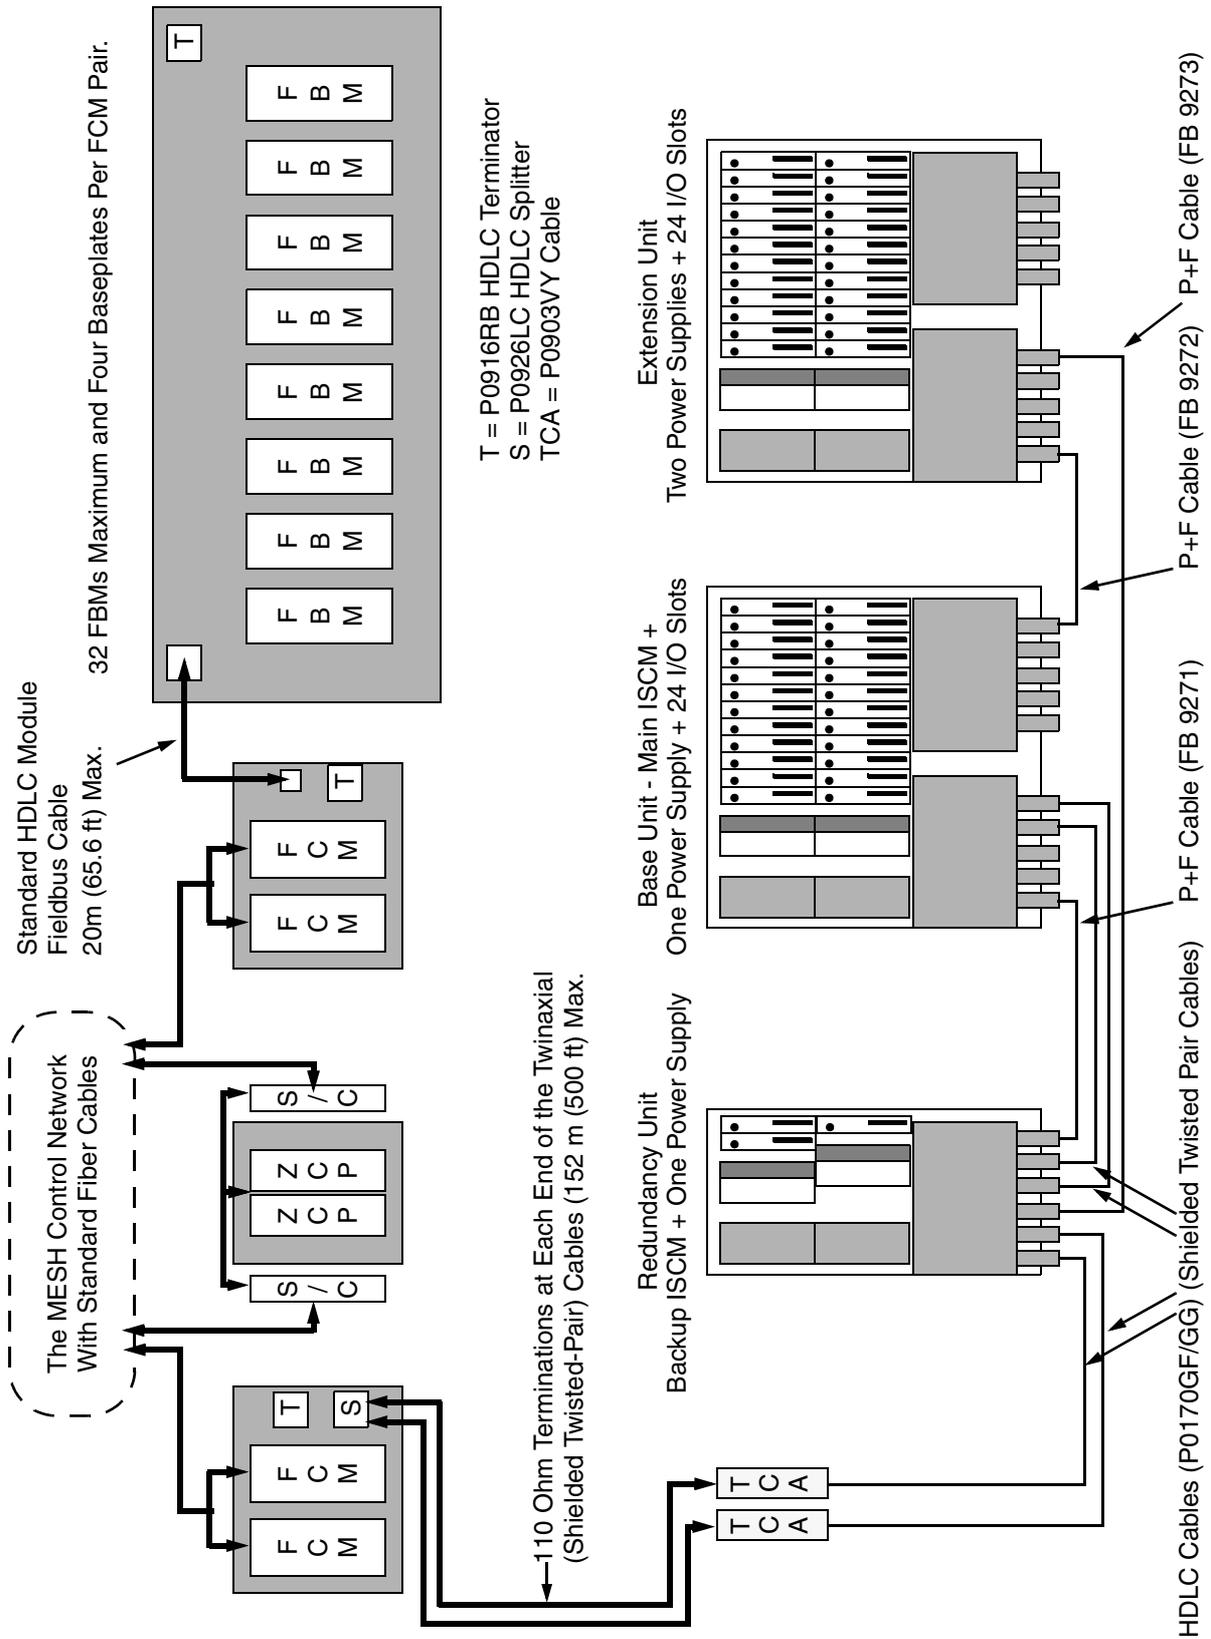

Figure A-4. Zone 1 (FB-Style) ISCM/FBM Configuration with ZCPs and FCM100E/Ets
- ◆ Figure A-4 “Zone 1 (FB-Style) ISCM/FBM Configuration with ZCPs and FCM100E/Ets” on page 135